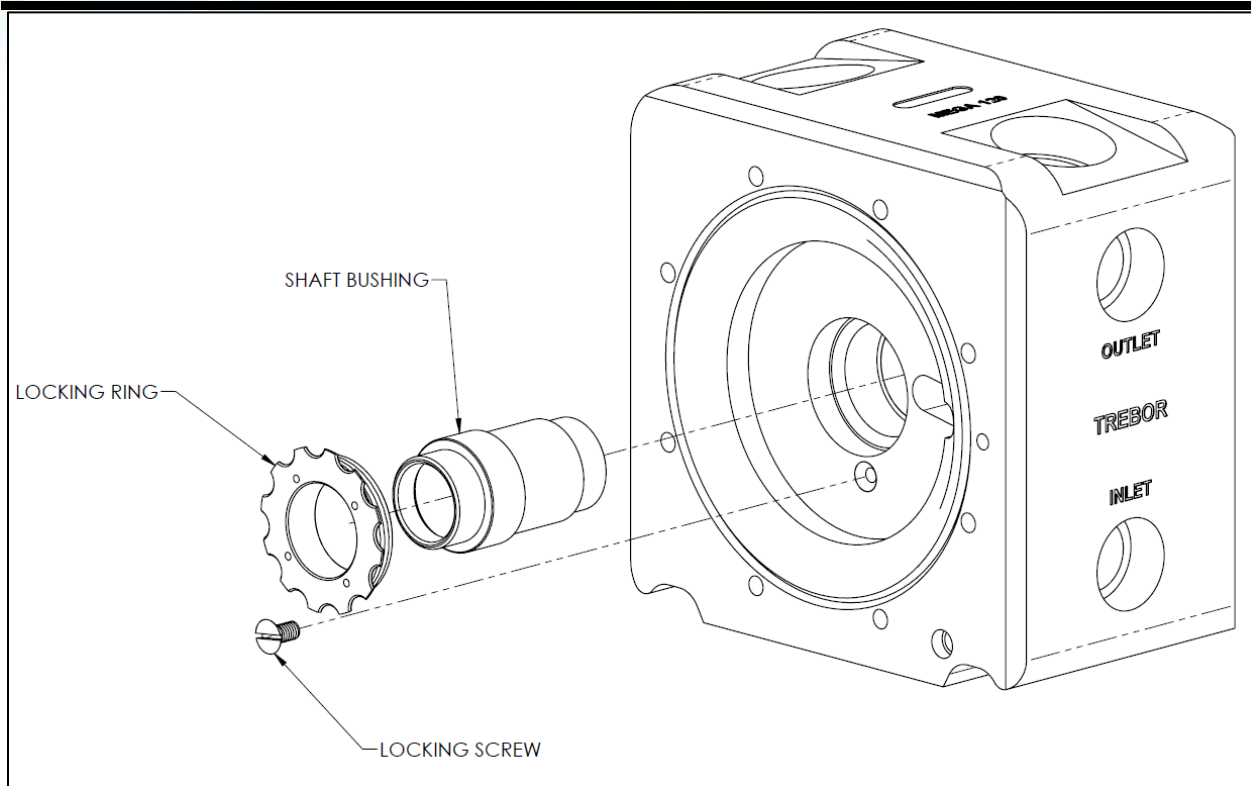

Figure 4-4
- Install shaft bushing per Figure 4-4.